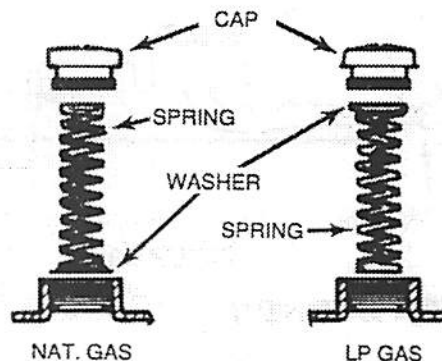

FIGURE 12
4. Remove the cap with the screwdriver slot (fig. 12). Remove the spring and washer (washer will be at bottom of spring). Reverse these so that the washer is now at the top of the spring, then reinstall. Insert the cap (over the washer and spring) in the body of the regulator and tighten.